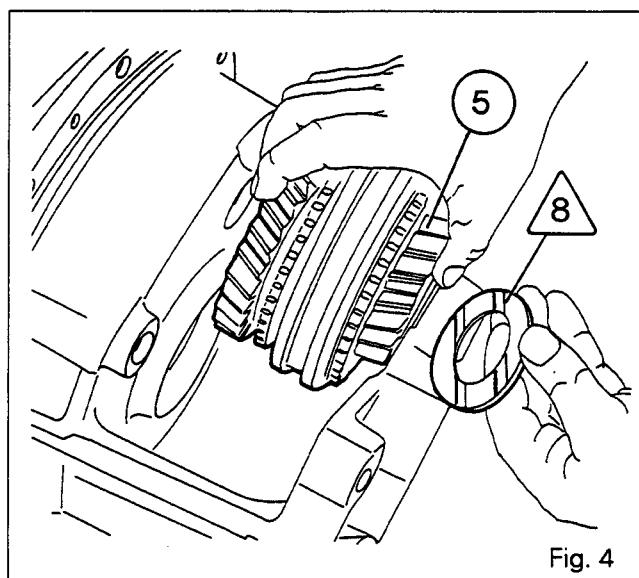

Fig. 4
26. Assemble gear (5) and the bush /7\, with the shoulder facing the synchromesh. Fit needle roller bearing (6), synchro cone (4), synchro ring (3), the synchromesh, synchro ring (21), synchro cone (22), gear (23), and needle roller bearing (20).
**Note: Place the friction washer /8\ with the lubricating channels towards gear (5) (Fig. 4).**